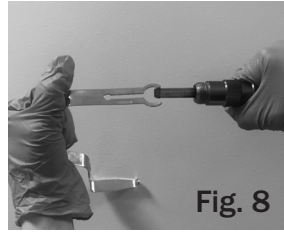

Fig. 8
- 2.- Turn the lever 180° (No. 1 - figure 8).
- 4.- Engage the safety once more. Turn the lever (no. 1 - figure 8) again 180° to the spray position.